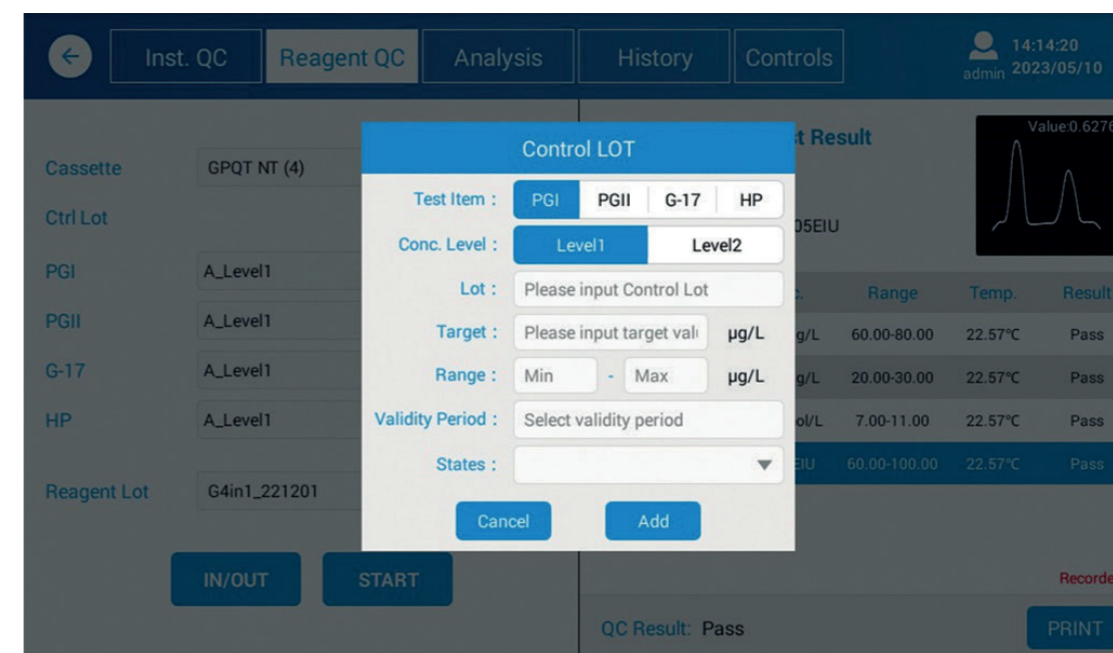

Figure 18. Control Lot Dialog window.
The product (test kit name) used can be selected from the **Cassette** dropdown menu and the control sample values for the markers or analytes detected by the test can be selected from their own dropdown menus. The values of the control samples shown in the dropdown menus must have previously been set using the **Control LOT** dialog window (Figure 18) that is displayed by tapping the **Add** button and stored in memory. The Lot number of the test kit used is selected from the Reagent Lot dropdown menu and must have been stored in memory or printed on the test cassette used for the Reagent QC testing.
- ADD LOT**      Add a new Control Lot with the Control LOT dialog window (Figure 18)